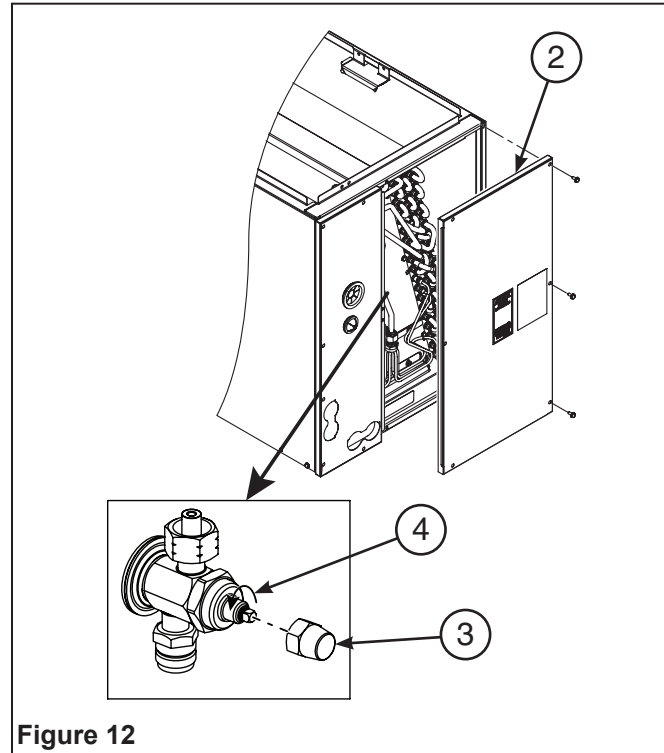

Figure 12
2. Remove coil panel to access TXV (Figure 12).
3. Remove adjustment valve cap (Figure 12). Mark the adjustable valve stem and TXV body to indicate the starting position of the valve.
4. Reduce superheat by turning valve counter-clockwise a maximum of  $\frac{1}{4}$  turn (Figure 12).